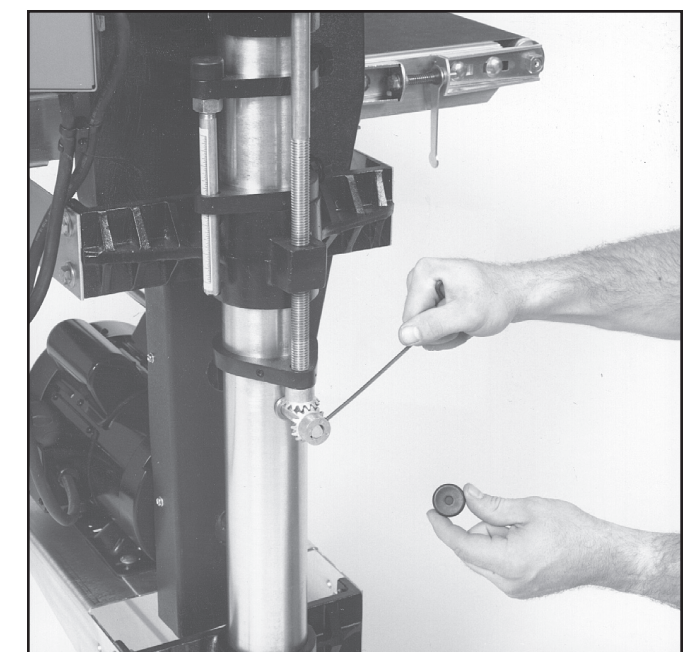

Fig. 14 Adjusting miter gears for proper mesh.
2. Remove the miter gear from the right (inboard) side of the transfer rod (Fig. 14). (If E clips are attached to the rod, remove both at this time.) Now loosen
Remove the plastic cap from the miter gear (Fig. 14) on the outboard side of the machine. Loosen the set screw of the miter gear and slide it back to disengage it from the miter gear of the adjusting screw. Turn the adjusting screw handle to raise or lower the outboard side of the table so that the measurement taken above equals the inboard side of the table. After adjusting is complete, re-engage miter gear making sure that miter gear set screw is aligned with flat on cross bar shaft.
5. If the height adjustment mechanism feels rough, check the miter gear (Fig. 14) alignment. The miter gears can be adjusted on their shafts by loosening the set screws on the gears. Check and adjust so that the gear mesh is not too tight or too loose, and that the gear teeth align with the opposing gear. Note that the shaft collars located on the transfer rod should be adjusted to control the lateral movement of the transfer rod to maintain accurate miter gear alignment and mesh.